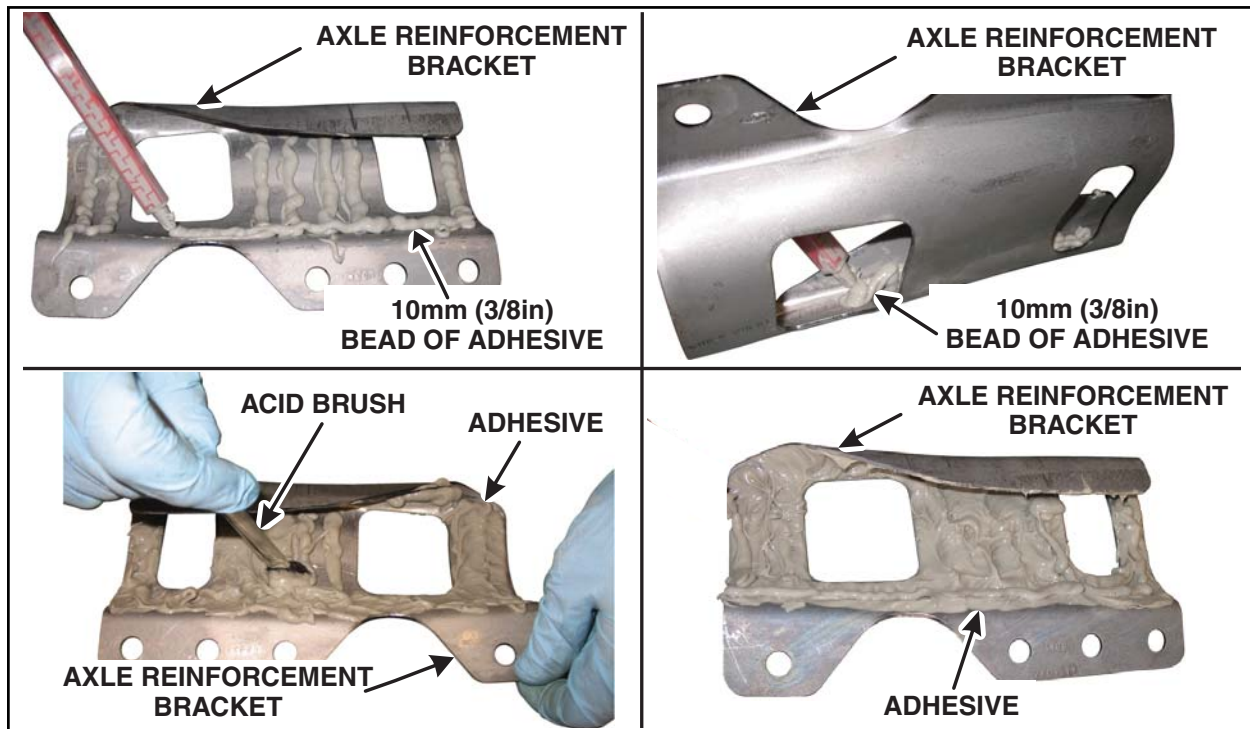

FIGURE 6
8. Using 10 mm (3/8 in) beads, dispense 1/4 of the adhesive cartridge onto each of two mating axle reinforcement brackets. Make sure to run a bead around the perimeter of each axle reinforcement bracket. Spread the adhesive evenly with an acid brush. See Figure 6.